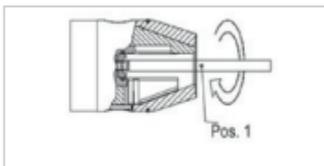

Figure 10: Screwing in assembly tool
- Screw the assembly tool (item 1) clockwise into the threaded pin (see "Figure 10: Screwing in assembly tool").